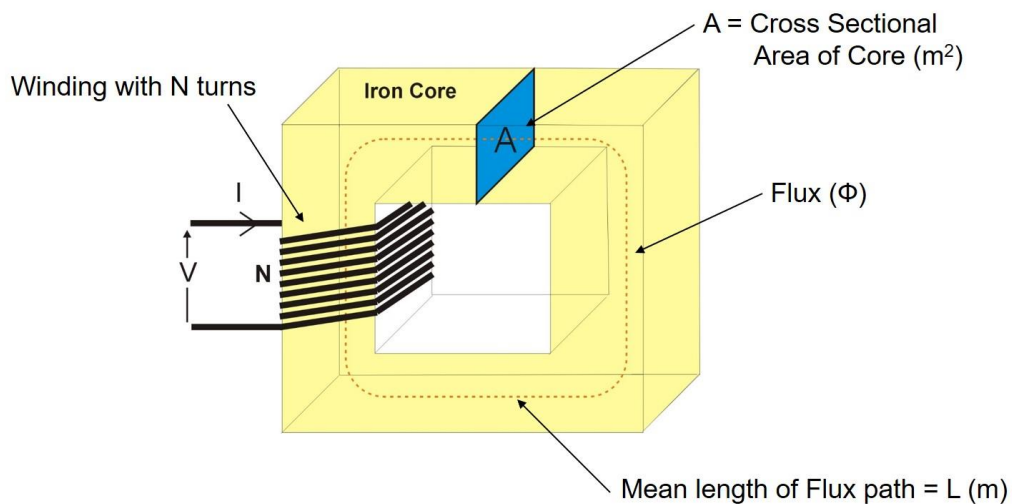

Figure 4. Flux induced in Magnetic Core due to Primary Windings
Referring to Figure 4, the current (I) in the windings produces a Magnetomotive Force (mmf), denoted by \mathbb{F} , where: